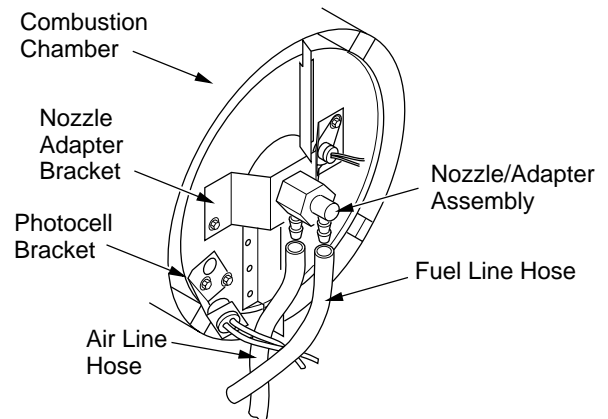

Figure 13 - Removing Air and Fuel Line Hoses
14. Replace photocell in photocell bracket. Route wires as shown in either (see Figure 13).
3. Remove fuel and air line hoses from nozzle assembly (see Figure 13).